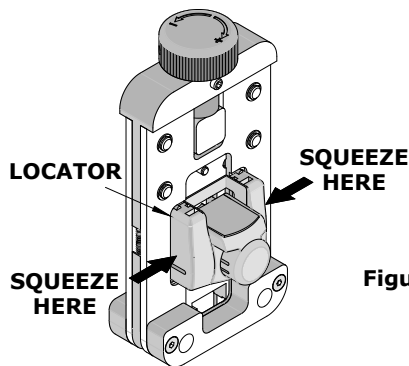

Figure 8.12
5. Rotate the locator down and press the lower tabs into the two bottom slots of the head. To secure the locator in place, the lower tabs must snap into place on the head frame. See Figure 8.12.